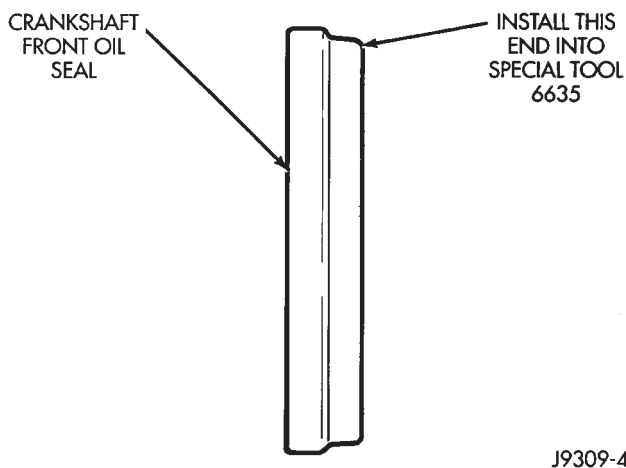

Fig. 27 Placing Oil Seal on Installation Tool 6635
(3) Place the smaller diameter of the oil seal over Front Oil Seal Installation Tool 6635 (Fig. 27). Seat the oil seal in the groove of the tool.